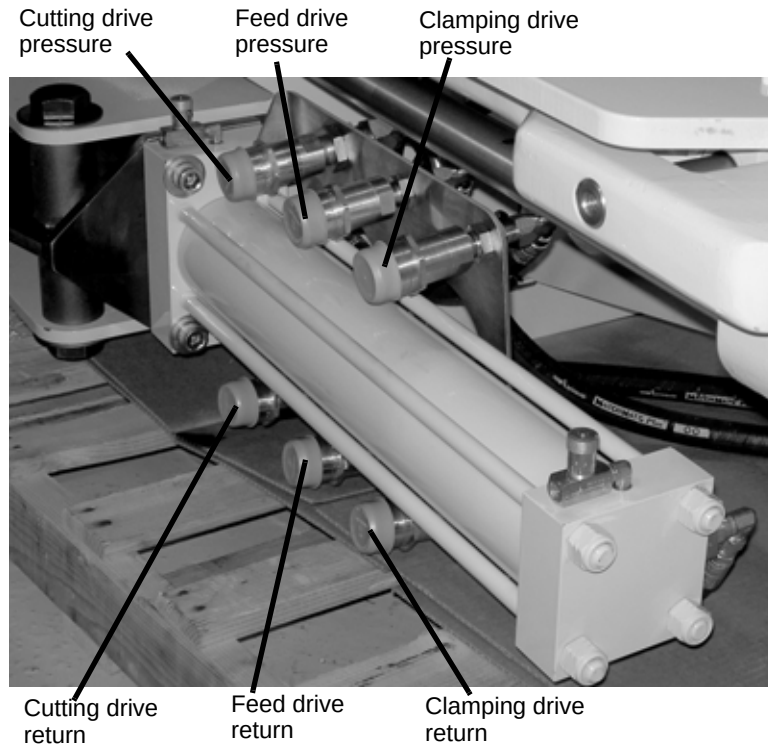

Figure 5-9. Connect the clamping drive hoses to the saw as shown.
6. Connect the hoses from the TCU or hose reel to the fittings on the saw bulkhead as shown in Figure 5-9.